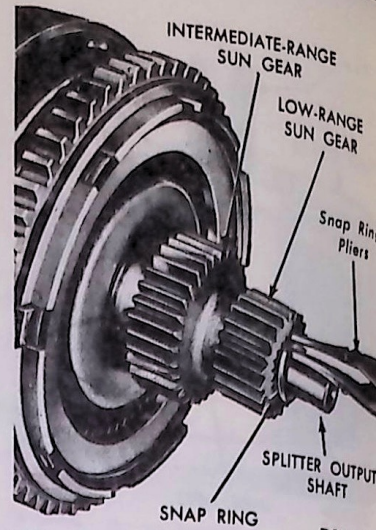

FIG. 49 Low-Range Sun Gear Snap Ring Removal
1. Remove the low-range sun gear snap ring (Fig. 49), then remove